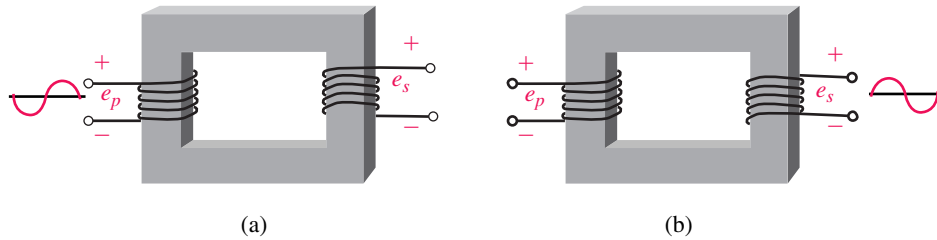

FIGURE 24–69
- For the transformers of Figure 24–69, sketch the missing waveforms.